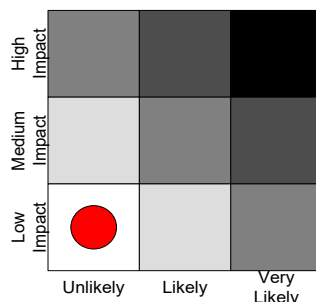

Figure 1
**Risk Level** – We use two measures, "Impact" and "Likelihood" to define the risk level. A two dimensional matrix categorizing Impact and Likelihood into three levels—low, medium, high—is used to graphically represent risk level. See Figure 1 below.